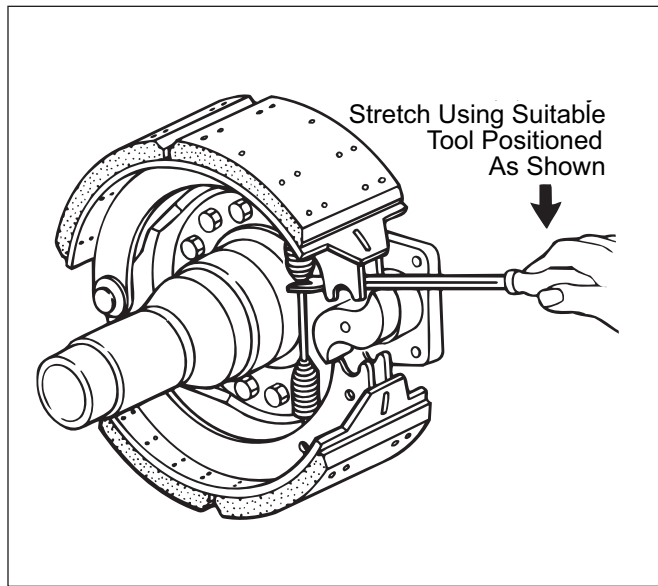

Figure 14. ES-165-7D, L, F Shoe Removal
**NOTE:** To remove return spring, position a lever or suitable tool with notch to engage spring rod. Refer to Figure 14. Apply downward force to stretch spring, allowing removal of upper spring hook. Remove and discard spring.
**NOTE:** ES-165-5,6,7L,D/ES-150-6D steer axle brakes may use two return springs with a horse collar or dual spring post. To remove return springs, position a lever or suitable tool with notch to engage spring. Return to Figure 14. Apply downward force to stretch upper spring, allowing removal of upper spring hook. Remove and discard. Repeat procedure for lower spring.